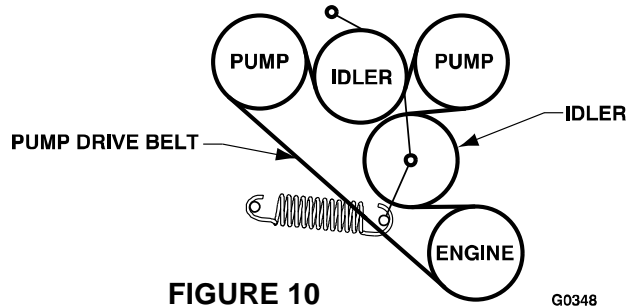

FIGURE 10
- c) Route new belt onto sheaves as shown in the decal located on the back of the left drive shield. See Figure 10.